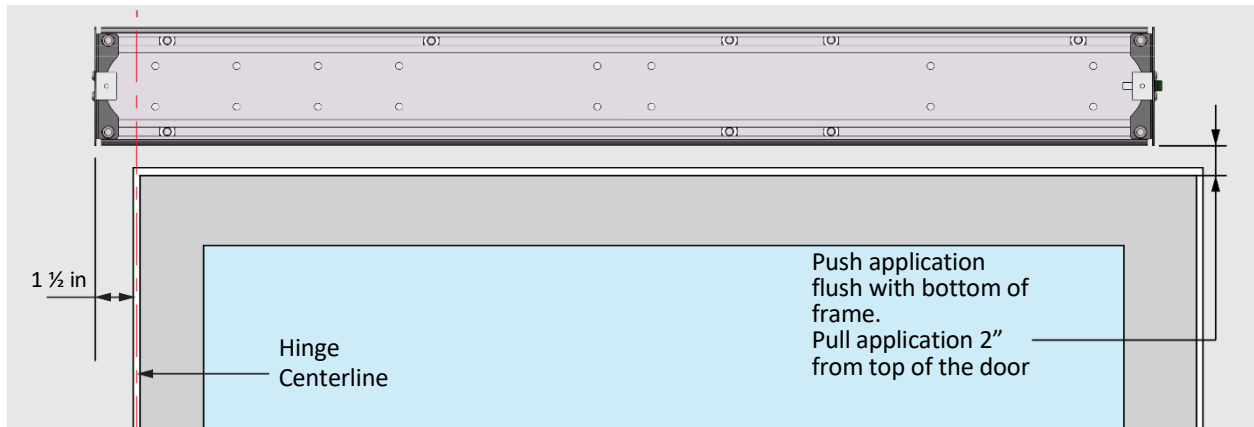

Figure 4-4 Header Unit Position (Pull Application)
- For **PULL** applications: mount the bottom of the unit above the frame (2" above the top of the door). Figure 4-4 illustrates a PULL application header position.